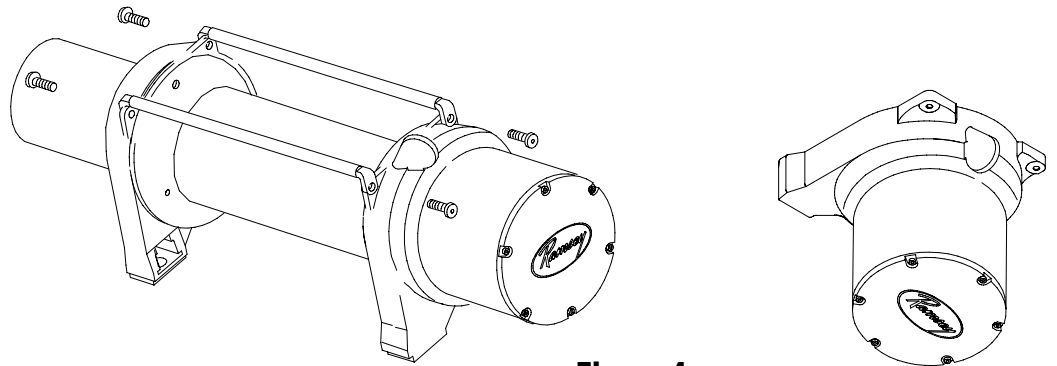

Figure 4
1. Position winch as shown in Figure 4. Remove screws from tiebars. You may be able to loosen the screws at the motor end without removing them. Pull the Gear Housing assembly from the drum and shaft and set it down on the work bench with the Gear Housing Cover up. Remove the drum bushing from the Gear Housing assembly or the end of the drum. Set aside.
2. Remove (6) capscrews from the Gear Housing Cover. Holding the Gear Housing Cover over the Gear Housing assembly, flip it over and set it on the workbench.